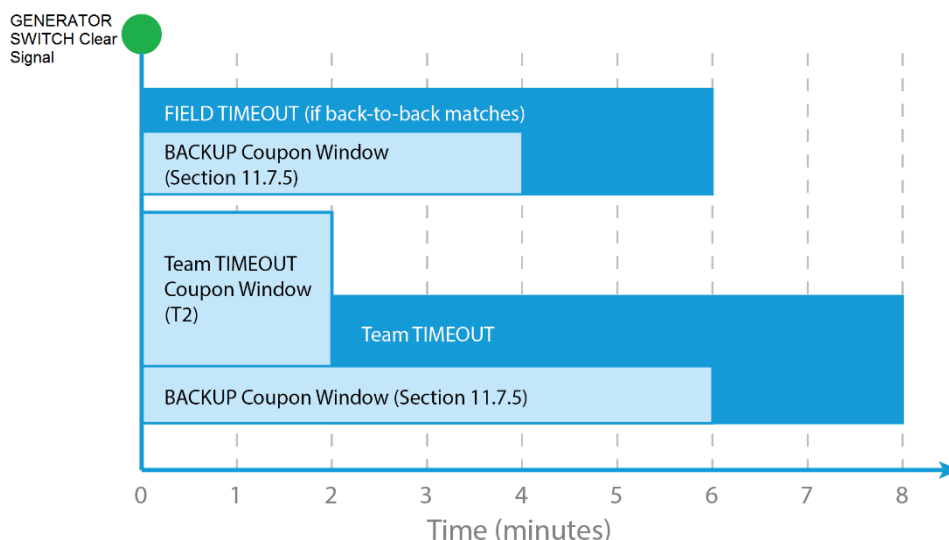

Figure 0-4 TIMEOUT and BACKUP Coupon Timeline
- T3.** If an ALLIANCE wishes to use their TIMEOUT, the ALLIANCE CAPTAIN must submit their TIMEOUT coupon to the Head REFEREE within two (2) minutes of the GENERATOR SWITCH Clear signal preceding their MATCH. If there is no preceding MATCH, the TIMEOUT coupon must be submitted no later than two (2) minutes before the scheduled MATCH time. The TIMEOUT will begin two (2) minutes after the GENERATOR SWITCH Clear signal (i.e. at the end of the Team TIMEOUT Coupon Window depicted in Figure 0-4)